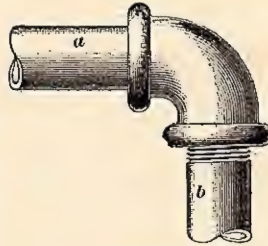

FIG. 25
34. In threading brass or copper pipe, particular care should be taken to revolve the dies with a uniform motion. This prevents splitting the pipe, and allows the dies to cut slowly and evenly, which helps to prevent the thread from being ragged or chewed away in places. Particular care should be taken, in threading nickel-plated pipe, to make the threads just long enough to be all hid in the fitting, as shown at *a* in Fig. 25, instead of having them too long and allowing a few threads void of plating being visible, as at *b*. The former indicates neat, skilful workmanship.
The neat finish shown at *a*, Fig. 25, is readily obtained by the use of recessed fittings, which allow some of the